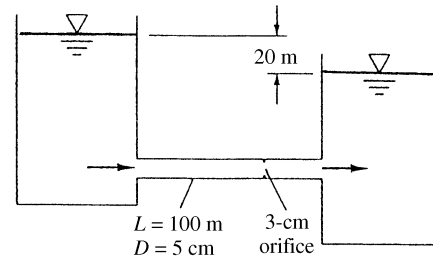

Fig. P6.146
6.146 A pipe connecting two reservoirs, as in Fig. P6.146, contains a thin-plate orifice. For water flow at 20°C, estimate (a) the volume flow through the pipe and (b) the pressure drop across the orifice plate.